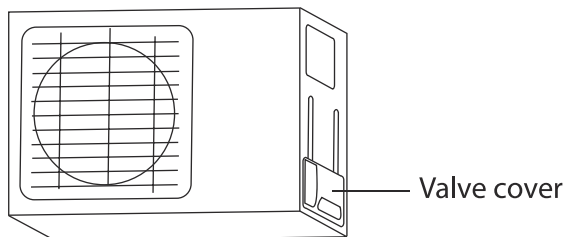

Fig. 5.9
- ❶ Unscrew the cover from the packed valve on the side of the outdoor unit. (See Fig. 5.9)
- ❷ Remove protective caps from ends of valves.
- ❸ Align flared pipe end with each valve, and tighten the flare nut as tightly as possible by hand.